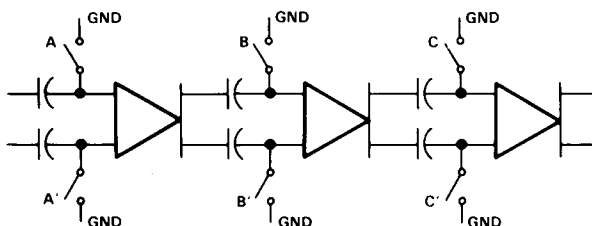

FIGURE 1
1. The IN+ and IN- inputs are internally shorted together in order that the comparator input is zero. A course comparator offset calibration is performed by storing the offset voltages of the interconnecting comparator stages on the coupling capacitors that connect the interconnecting stages. Refer to Figure 1. The storage of offset voltages is accomplished by closing all switches and then opening switches A and A', then switches B and B', and then C and C'. This process continues until all interconnecting stages of the comparator are calibrated. After this action, some of the comparator offset still remains uncalibrated.